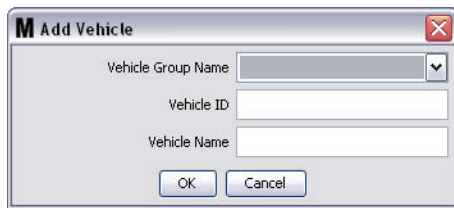

FIG. 168
6. The Add Vehicle screen shown in FIG. 168 displays.